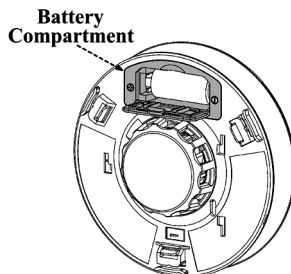

Figure 8: Battery location
7. Battery installation, shown in Figure 8